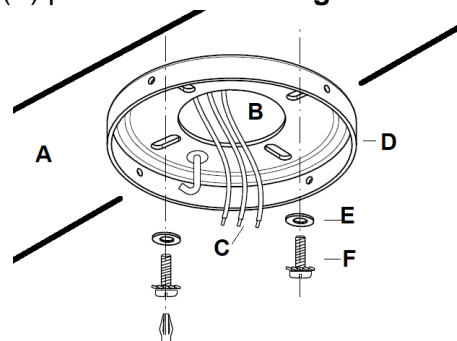

Fig. 5
Pass the power supply wires (C) from the ceiling outlet box (B) through the center of the ceiling mounting bracket (D). Install the ceiling mounting bracket (D) on the outlet box (B) with the mounting screws (F) provided with the outlet box and washers (E) provided with fan. Fig. 5